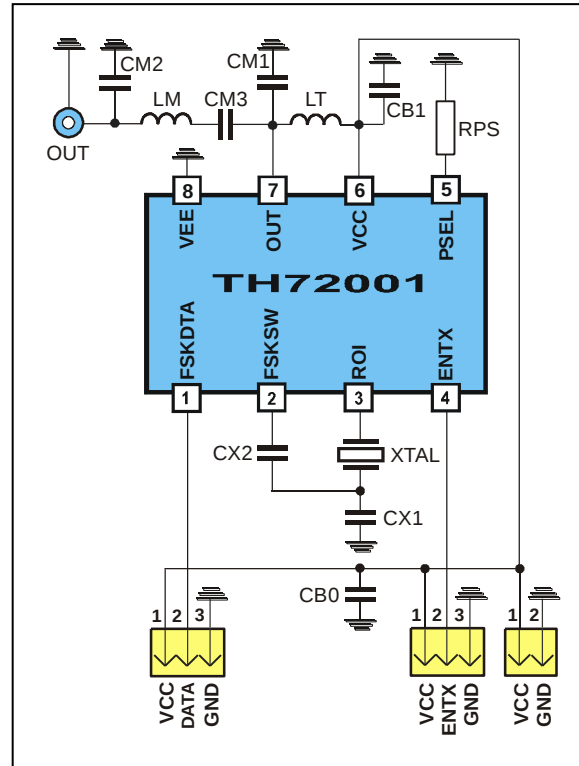

Fig. 18: Test circuit for FSK with 50 Ω matching network
typical values at $T_A = 23\text{ }^{\circ}\text{C}$ and $V_{CC} = 3\text{ V}$; test circuit shown in Fig. 18, $f_c = 315\text{ MHz}$
- Data according to test circuit in Fig. 18
6.1. Test circuit component list to Fig. 18